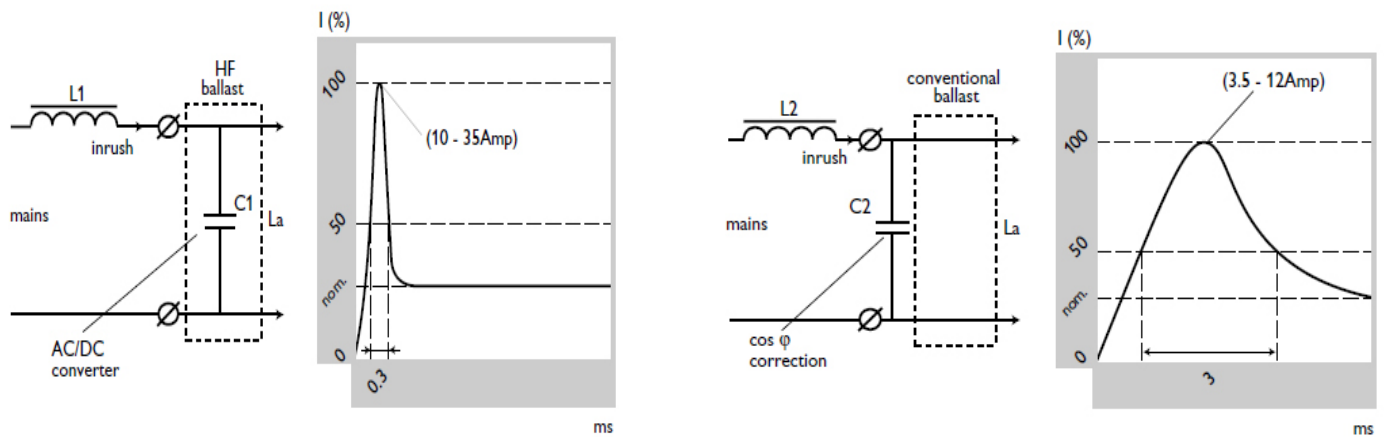
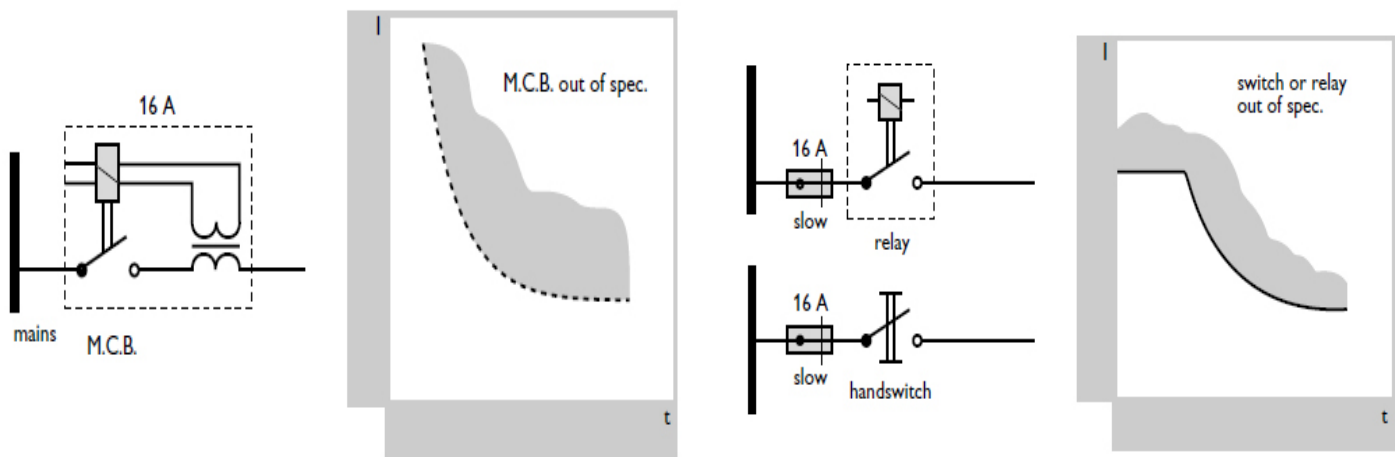

Fig. 58 The inrush current of an HF ballast compared with that of a conventional ballast.
Fig. 59 Inrush currents may trigger MCBs, fuses or relays when they peak in the hatched part of the curves.
2. For the same lamp wattage, the inrush-current pulse of an HF ballast is in principle higher and narrower than that of a conventional ballast (see Fig. 58). With an HF ballast, the inrush current loads the buffer capacitor C1, while in the conventional case the parallel compensating capacitor C2 is loaded. The value of C2 is lower than that of C1, which explains the trend of the currents. Compare, for example, the values for a 36 W T8 lamp: conventional  $C2 = 3.6 \mu F$ , HF ballast  $C1 = 10 \mu F$ .
For the typical current/time curves of Fig. 58 we assume that the inductance of L1 equals that of L2. As a result, the  $I^2t$  value of HF ballasts is higher than with conventional ballasts. The inrush current can trigger Mains Circuit Breakers (MCBs), fuses or relays (as used in control systems) when the inrush currents peak in the hatched part of Fig. 59. According to the graphs, the maximum current of relay contacts is lower than that of MCBs (where the inrush current is sensed by a coil). When the coil of an MCB trips because the inrush current exceeds a maximum level, the main contacts (which are normally quite heavy, since they are so constructed as to be capable of switching off the current caused by short-circuiting) switch off, which explains the different behaviour with respect to normal relays.